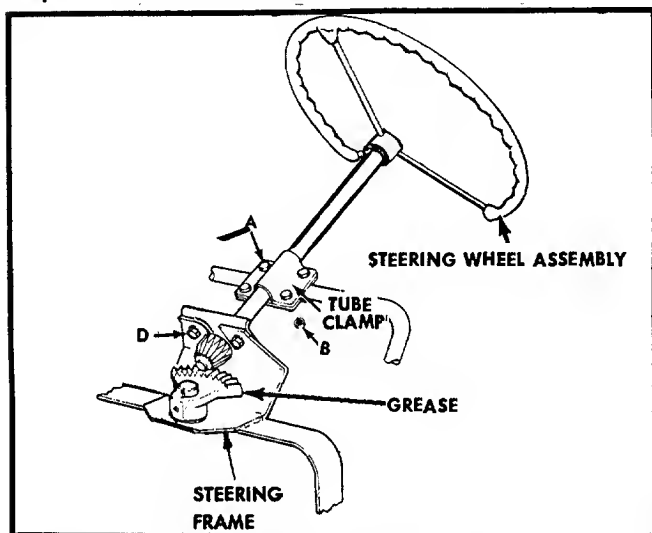

FIGURE 4. STEERING WHEEL ASSEMBLY
- Step 5. Place the steering wheel assembly so it rests in the notch in the steering frame and the gears mesh. Be sure the steering wheel is straight. Secure the steering wheel assembly with two screws D provided in the assembly pack. See figure 4.
- Step 6. Place one of the two tube clamps on the steering column and the other on the steering frame. Fasten with four screws A and nuts B. Tighten the four screws evenly so the clearance between the four edges of the tube clamps are even. See figure 4. Lubricate the gears with an automotive multi-purpose grease.